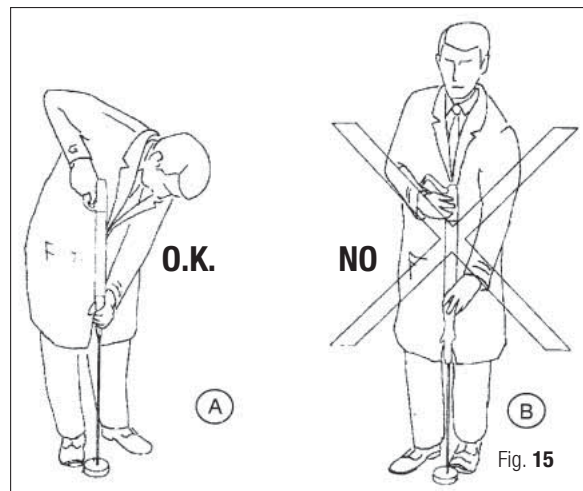

Fig. 15
26. Insert the line release (42) into the handle with the line release lever oriented towards the same side as the power adjustment lever. Align the hole in the line release (42) with the hole in the handle and install line release pin
27. On Competition Line guns starting from serial number 92296000 forward, place bushing (47) and o-ring (46) on tool A-22 (Fig. 15).
28. Insert bushing (47) and o-ring (46) into the handle (41). Gently tighten the bushing (47) into its housing in the handle with tool A-22.
FOR THE NECESSARY INSPECTION TO BE PERFORMED, THE SHAFT MUST BE INSERTED INTO THE SPEARGUN. FOR YOUR SAFETY, FASTEN THE SHAFT INTO A FLOOR BASE. WHEN THE SHAFT IS INSERTED, ALWAYS MAINTAIN PRESSURE ON THE SPEARGUN WITH BOTH HANDS AND KEEP THE HANDLE UNDER YOUR SHOULDER (FIG. 15-A), NEVER UNDER YOUR FACE (FIG. 15-B). DO NOT PERFORM ANY ADJUSTMENT OR LEAVE THE GUN UNATTENDED WHEN THE SHAFT IS INSERTED. FAILURE TO FASTEN THE SHAFT INTO A FLOOR BASE OR MAINTAIN PRESSURE ON THE SPEARGUN WITH BOTH HANDS AND KEEP THE HANDLE UNDER YOUR SHOULDER (FIG. 15-A) WHEN THE SHAFT IS INSERTED, COULD RESULT IN THE SPEAR SHAFT AND/OR SPEARGUN BEING PROPELLED UNCONTROLLABLY, IF THE TRIGGER IS PULLED OR THE SPEARGUN FIRES UNEXPECTEDLY AND COULD RESULT IN SERIOUS INJURY OR DEATH.
1. Using a floor base, insert the shaft until the piston engages the catch hook (Fig. 15-A).
2. Using a floor base, insert the shaft until the piston engages the catch hook (Fig. 15-A).
5. Using a floor base, insert the shaft until the piston engages the catch hook (Fig. 15-A). The effort exerted by the speargun should be the same as it was 2 hours previous. A decrease in the effort would indicate a leak in the speargun. An increase in effort would indicate an internal leak past the power regulating block.